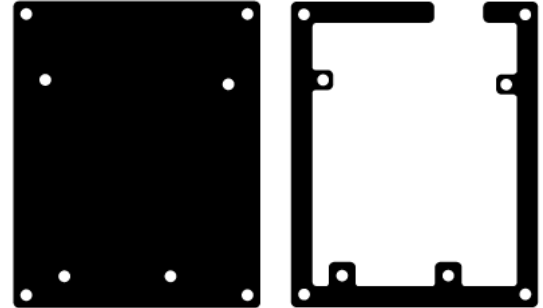

Figure 1: Bottom layer (left) and spacer layer (right).
- 2) Take the bottom solid layer and put the spacer layer on top of it (Figure 1). Put Arduino Uno R3 or Arduino Zero (M0/M0 Pro) on top of the spacer layer and fasten it to both layers using three M3×10 screws. One of the fixing places cannot be used because Arduino board does not have enough space for the screw head.